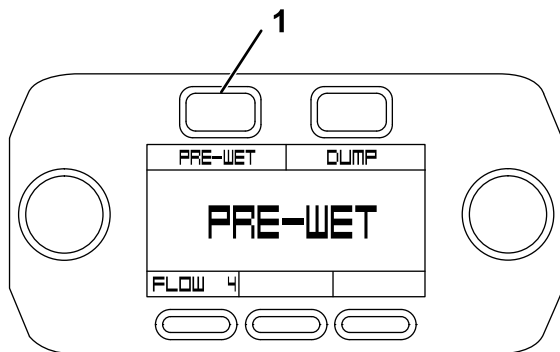

Figure 51
- On the pre-wet screen, press the Pre-Wet button (Figure 51).